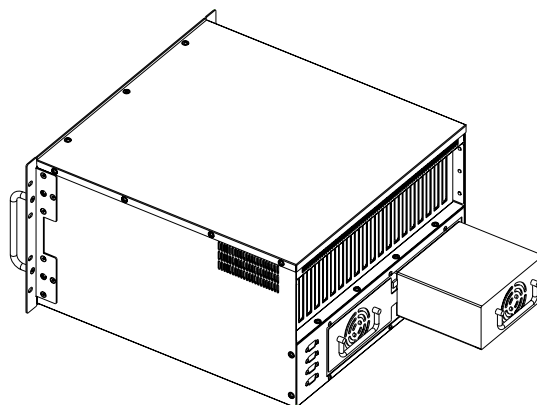

Figure 3.5 Replacing the redundant power supply module
3. Loosen the screws on the module and then grab the handle to gently pull it out (see Figure 3.5).